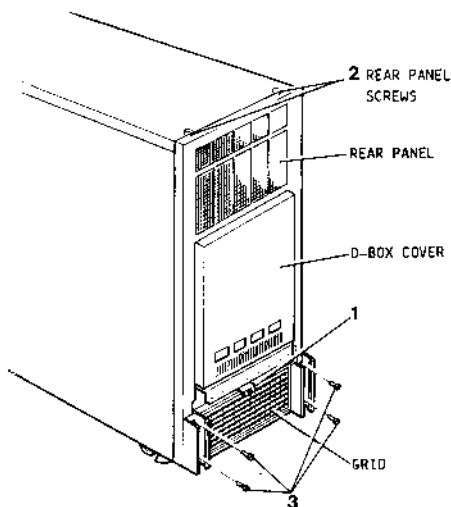

Fig. 2-2 Removing Panels at Rear of SBO Cabinet
4. **Rear panels:** The cabinet rear consists of three panels (see figure 2-2):